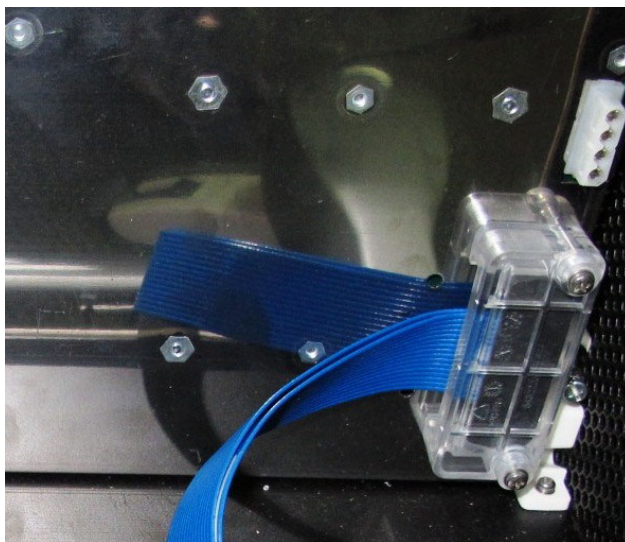

Figure 8-102 HDR Flex Cable Bracket Located on BEP
3.) Unscrew the two securing screws securing the HDR flex cable bracket located on the BEP as shown in Figure 8-102 below.